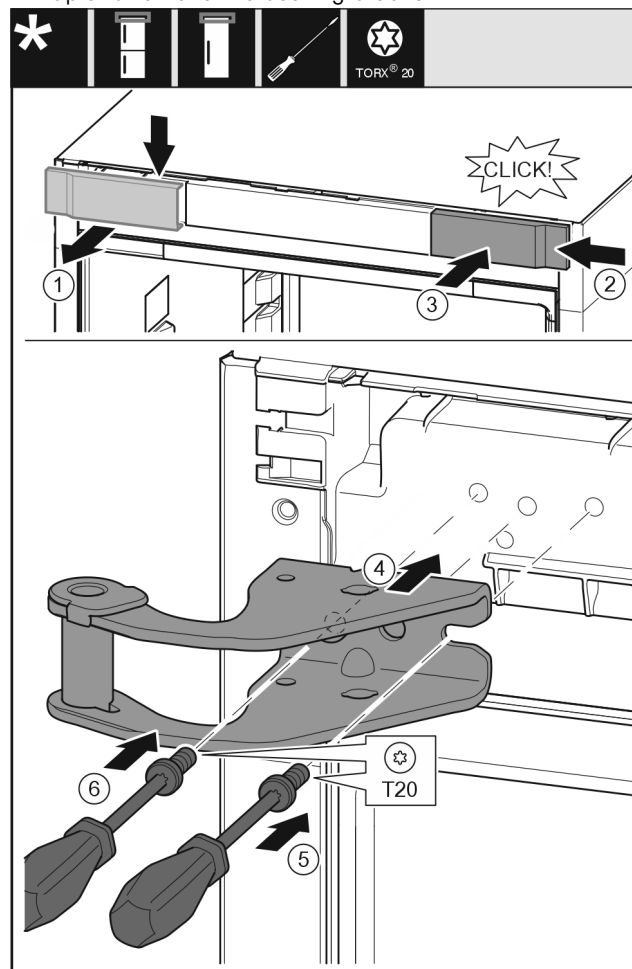

Fig. 11
► Remove the cover Fig. 11 (1) from above towards the front.
► Turn the cover Fig. 11 (2) by 180° and attach to the other side from the right.
► Engage the cover Fig. 11 (3).
► Place the top swap bearing block Fig. 11 (4).
► Use screwdriver Fig. 11 (5) to place the screw and tighten it.
► Use screwdriver Fig. 11 (6) to place the screw and tighten it.